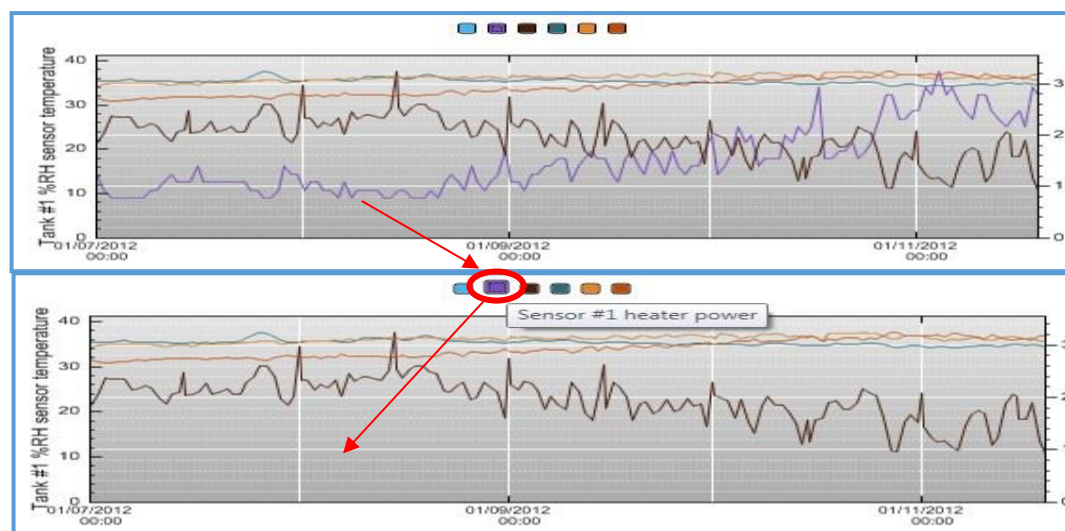

Figure 4-43: Example of deselecting a parameter
- To de-clutter the trend graph, individual parameters can be de-selected from the plot by clicking the relevant square in the colour-coded legend (it toggles to the large size to indicate deselection). For example, the upper graph in Figure 4-43 shows all parameters plotted, whereas the lower graph shows the purple plot de-selected.